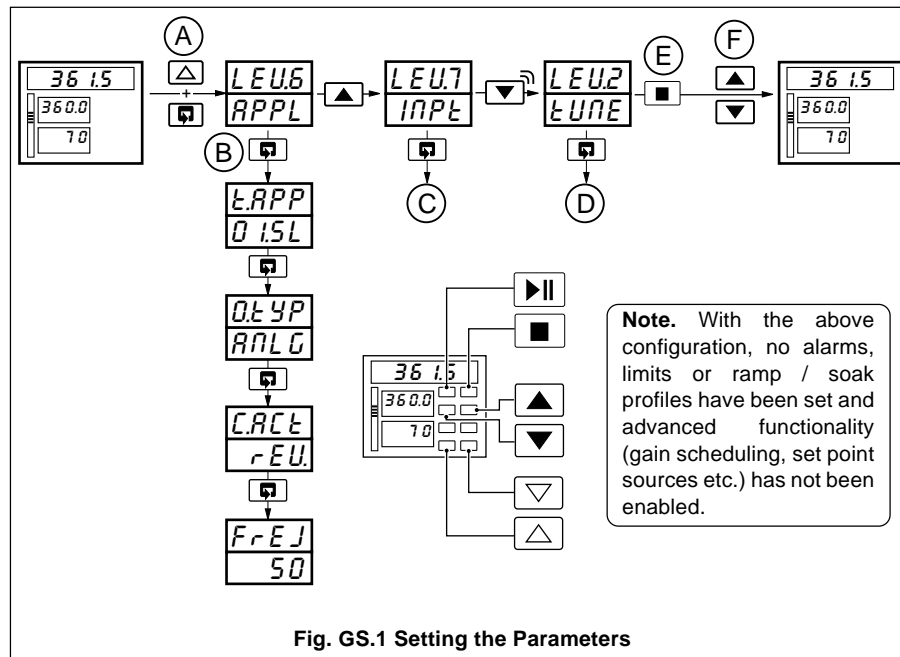

Fig. GS.1 Setting the Parameters
Step 3 – Setting the Parameters (Fig. GS.1)
- (A) Power-up the instrument. Press the and keys simultaneously and hold for 3 seconds to advance directly to Level 6 – Basic Configuration.
- (B) Set the appropriate application template, output type and control action. Use the key to advance between frames and and keys to adjust the default values – see Section 5.2 for further information.
- (C) If you are not using 4 to 20mA inputs, then select Level 7 using the and keys and set up Analog Inputs I/P1 to I/P3 to suit your process – see Section 5.3.
- (D) Controller templates only: